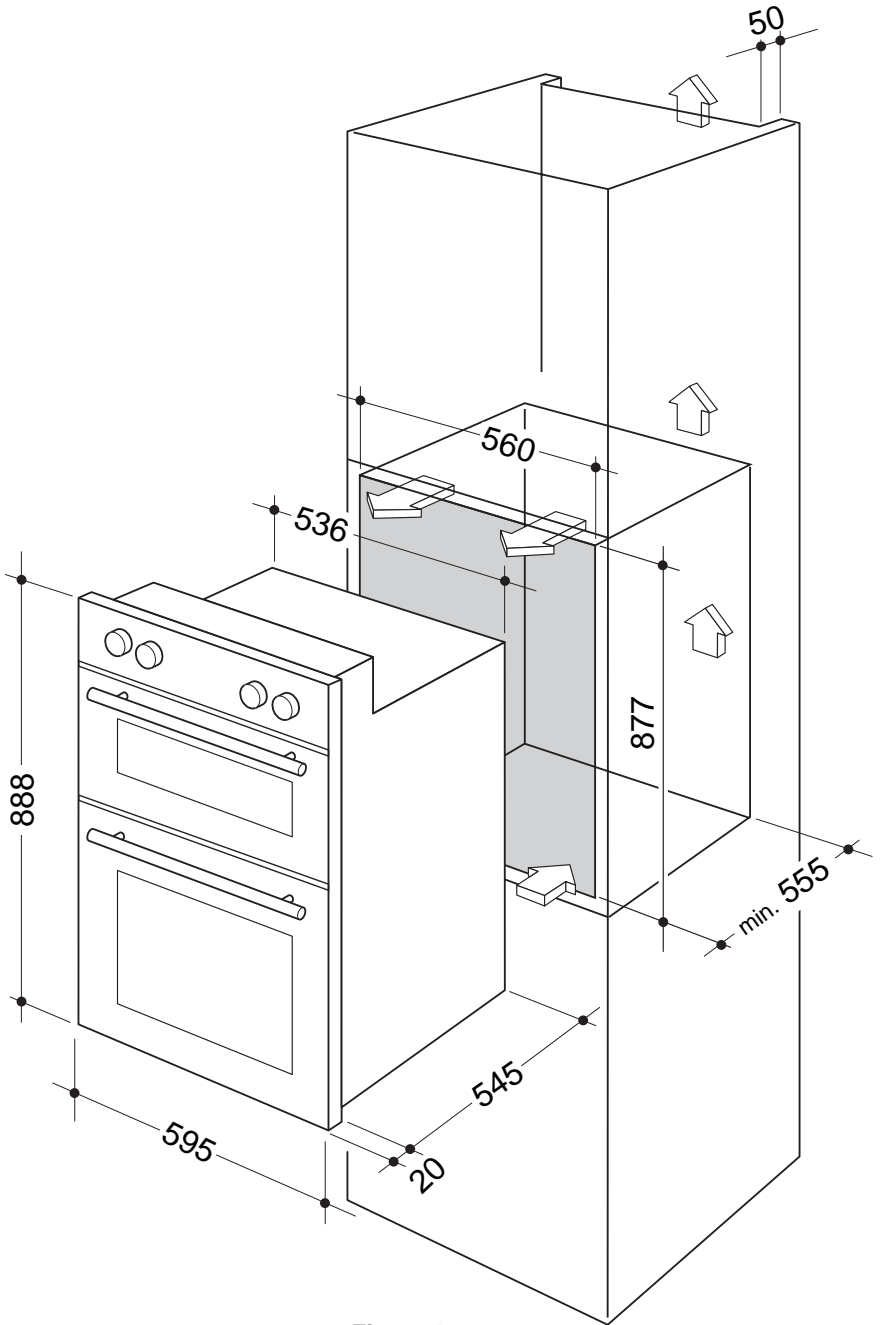

Figure 1
- Installation requires a compartment as illustrated in figure 1.
It is essential that when installing your double oven adequate air circulation is allowed for within the installation (figure 1).